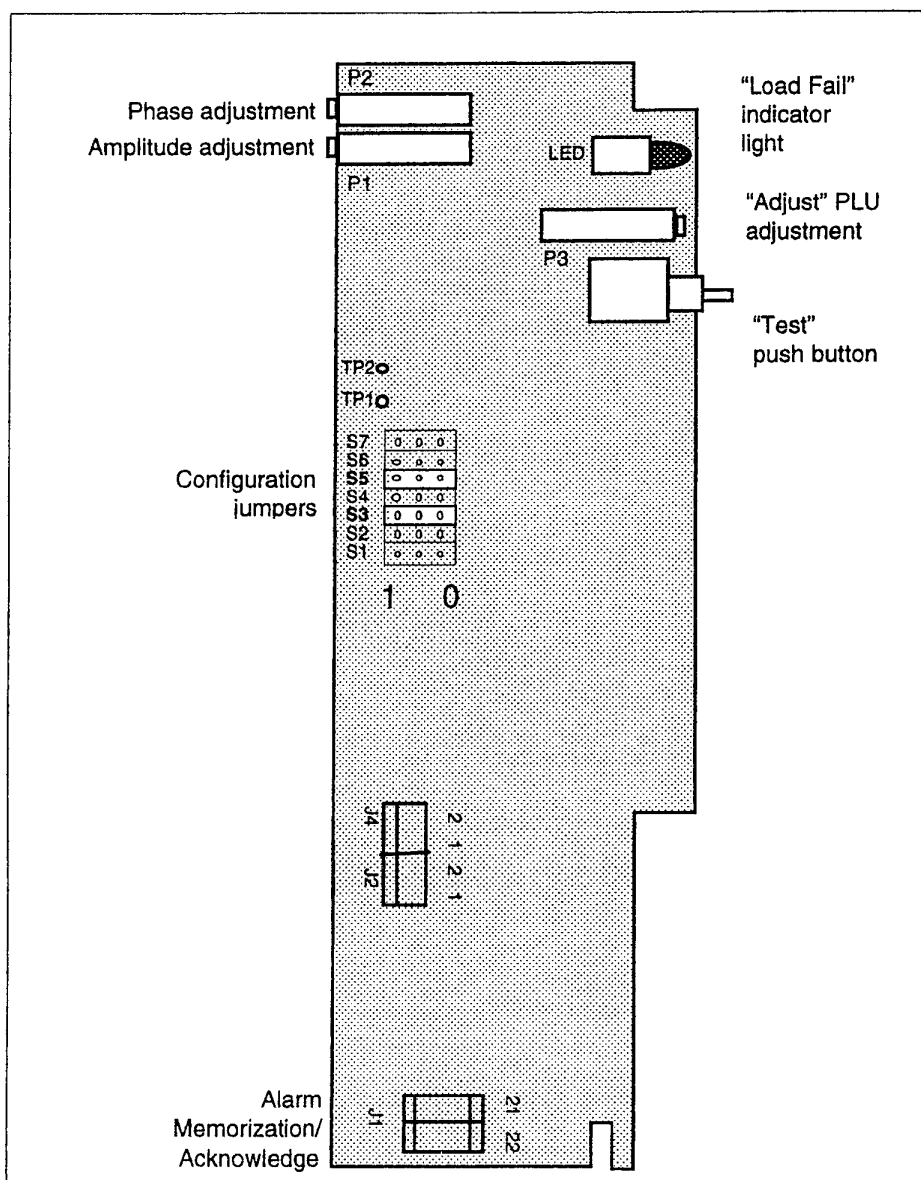

Figure 6-1 Location of adjustment equipment on the PLU board
- set jumper **S5** on the PLU board to position **1** (see figure 6-1)
- Set jumper **S3** on the PLU board to position **1** (see figure 6-1).